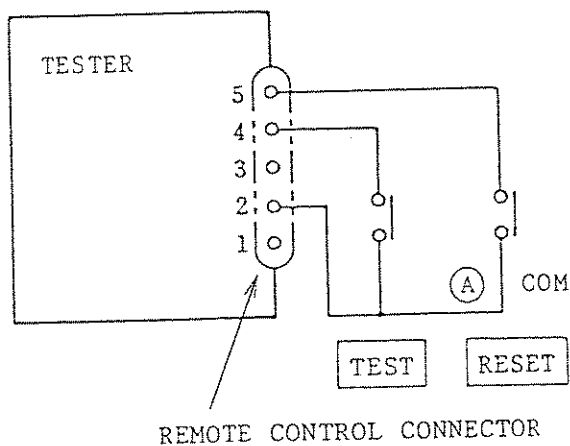

Figure 4.5
- ① By controlling the TEST and RESET contacts shown in Figure 4.5, the test voltage can be on/off-controlled in the same manner as done locally at the instrument front panel.
- ③ Logic elements (transistors, FET's, or photocouplers) may be used instead of the switches in Figure 4.5. The signal status for such operation is shown in Figure 4.7. The input conditions of this instrument for such operation are as follows:
- $\textcircled{4}$ As for the elements to be connected to the Tester, the use of photocouplers as shown in Figure 4.7 or relays as shown in Figure 4.5 would be advantageous from the viewpoint of preventing erroneous system operations which could be caused by noise. Although the Testers are incorporated with the various provisions to guard it against erroneous operations caused by noise generated by itself or its related devices, it is most recommendable to take full attention to prevent noise when setting up the measuring system.